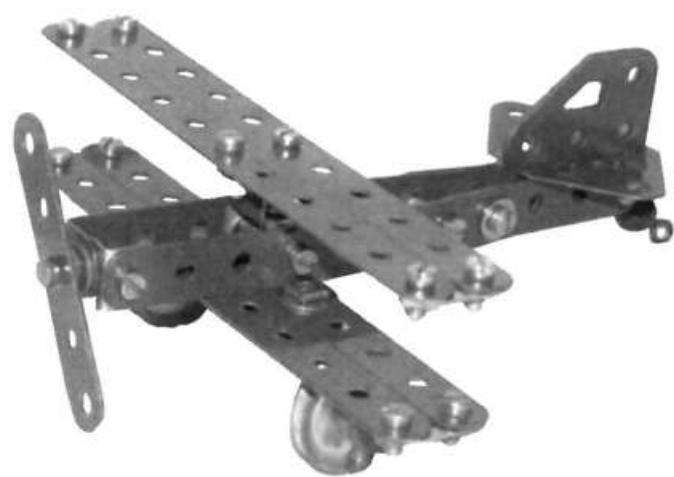
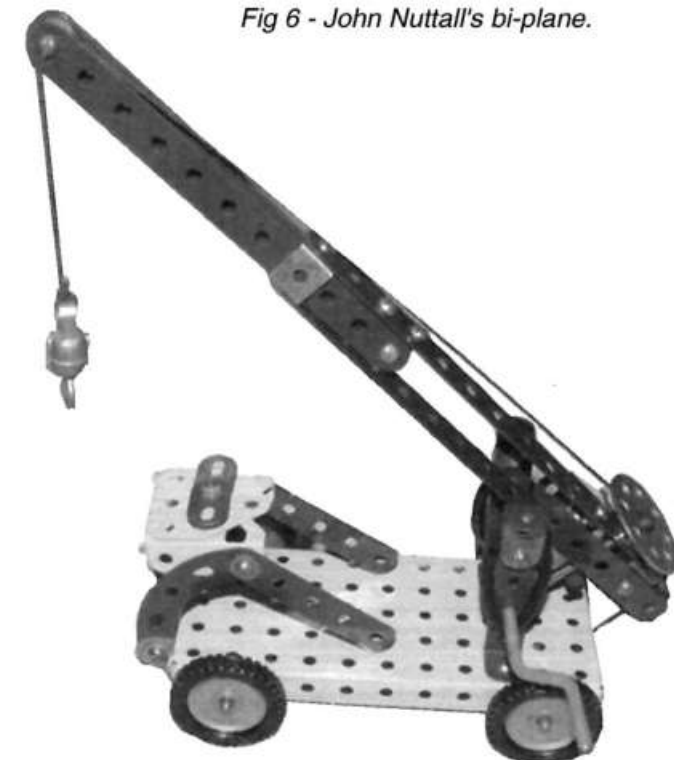
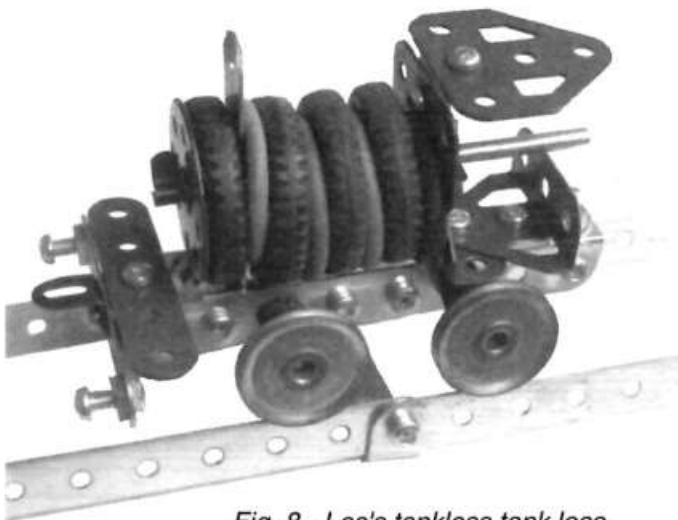

Fig 6 - John Nuttall's bi-plane.
Fig. 7 - Richard Payn's lorry mounted crane (what else from him?)
Fig. 8 - Les's tankless tank loco.
you have the Internet just take a peek at www.nzmeccano.com and feast your eyes. The top-ranking model was Joe Attard's (Malta) warship (Fig. 5), followed by John Nuttall's biplane (Fig. 6) and Richard Payn's (UK) lorry mounted crane (Fig. 7). Models include vehicles, animals, Xmas trees, humans doing things (fencing, weight-lifting, etc), cranes, a chocolate dispensing machine, Meccanographs, small giant blocksetting cranes, aeroplanes, fire engines, even a 2-speed gearbox (without gears). There were no cylindrical parts (except tyres and 1" Pulleys) included but I tried to model a steam engine using the 1" Tyres and Rubber Rings as the boiler. My effort is shown in Fig. 8. You will be pleased to see that not all my models are motor vehicles or cranes!